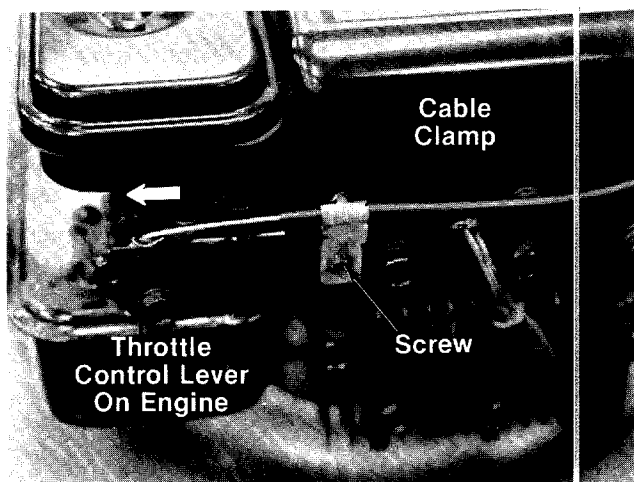

FIGURE 7.
11. Push the throttle control lever on the engine to the full open position (as far toward the outside of the unit as it will go) as shown in figure 7.
13. Remove the screw on the cable clamp shown in figure 7. Slip the control casing under the clamp. With the throttle lever on the engine still in the full open position, replace and tighten the screw to secure the throttle control cable.